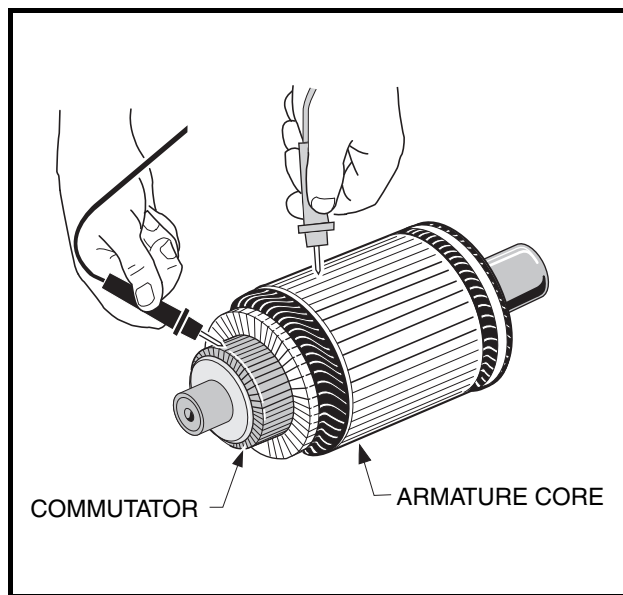

Figure 16b-12 Armature Test
1. With a multimeter set to 200 ohms, place one probe on the commutator and the other on the armature core. The multimeter should indicate no continuity (**Figure 16b-12, Page 16b-8**). If the reading is incorrect, replace the armature.
3. Inspect the brush springs (14) (**Figure 16b-15, Page 16b-11**). Replace springs that are discolored from heat (light gold or blue tinted).